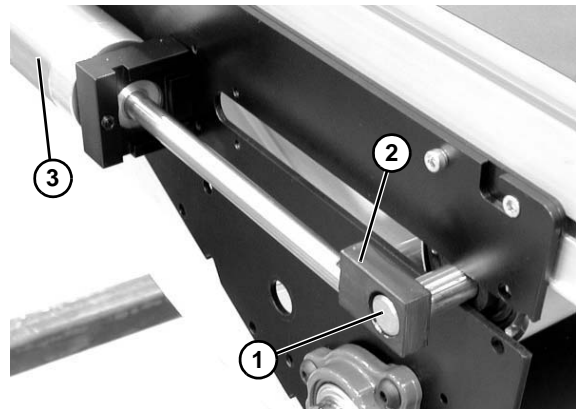

Figure 105
6. Push shaft (**Figure 105, item 1**) through block (**Figure 105, item 2**) on opposite side of center drive, slide block toward air cylinder (**Figure 105, item 3**).